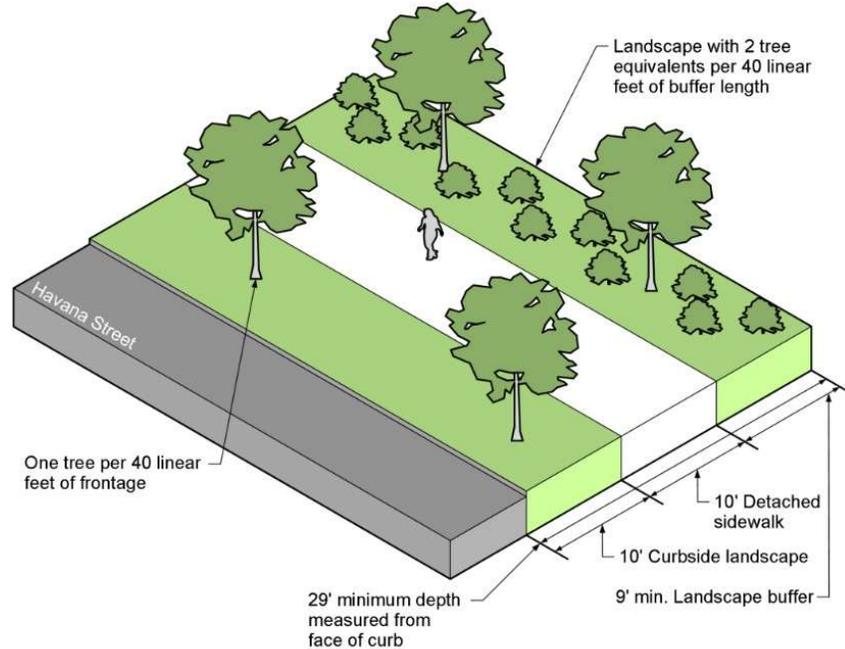

Figure 2.6-1: Condition 1
- Refer to Figure 2.6-1 for Condition 1 requirements below.